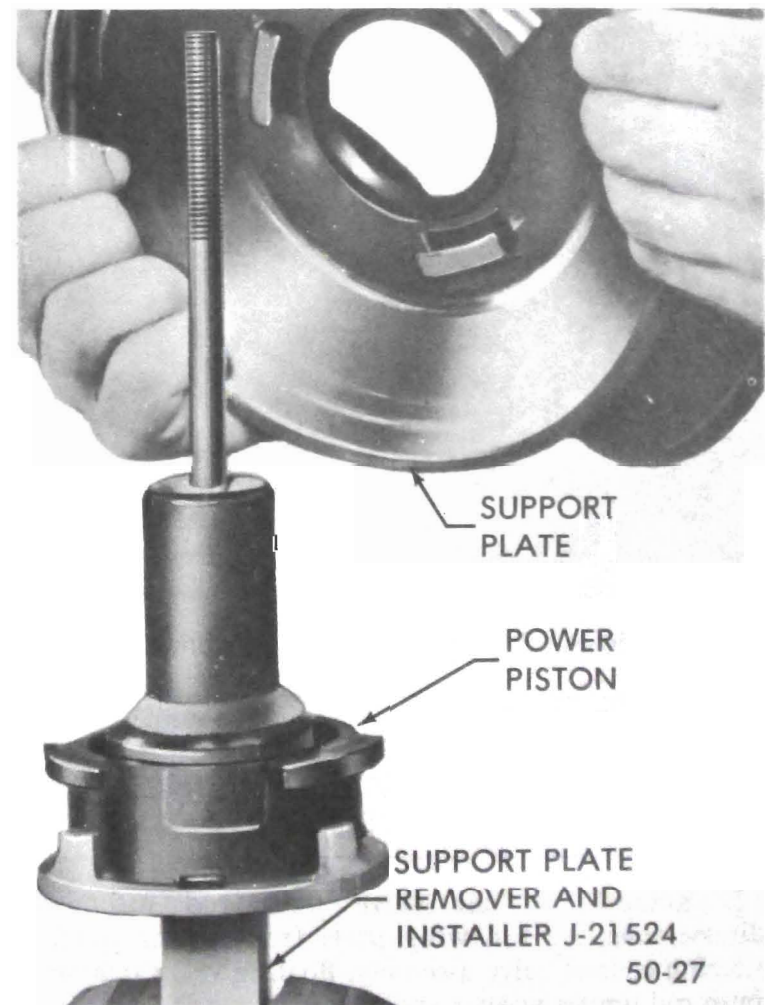

Figure 50-108 Removing Support Plate
7. Press down on support plate and rotate counter-clockwise until support plate separates from power piston. See Figure 50-108.